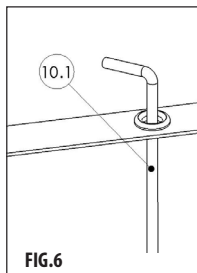
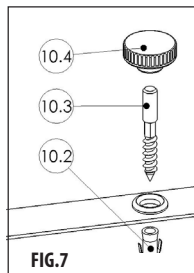

FIG.6
FIG.7
- 9) The guy kit (a part of supply) is intended for anchoring the product to the ground. The kit contains items intended for anchoring the product to both a grassy (**FIG. 6**) and hard (**FIG. 7**) surfaces.